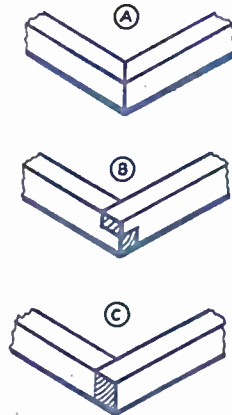

Fig. 1
8½ ins. long and two pieces 2½ ins. long. The neatest joint to use at the corners is the mitred joint illustrated at Fig. 1(A). This can be accurately made by using a mitre block. Alternatively, half-lapped joints (B) or even butt joints (C) may be used if desired. If the butt joint is used then the two ends must be shortened to 2½ ins.